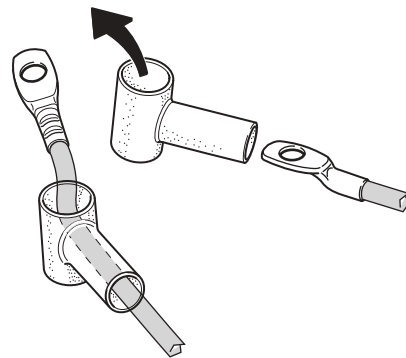

Fig. 45
- ▶ Feed cable connections through protective rubber caps (Fig. 45).